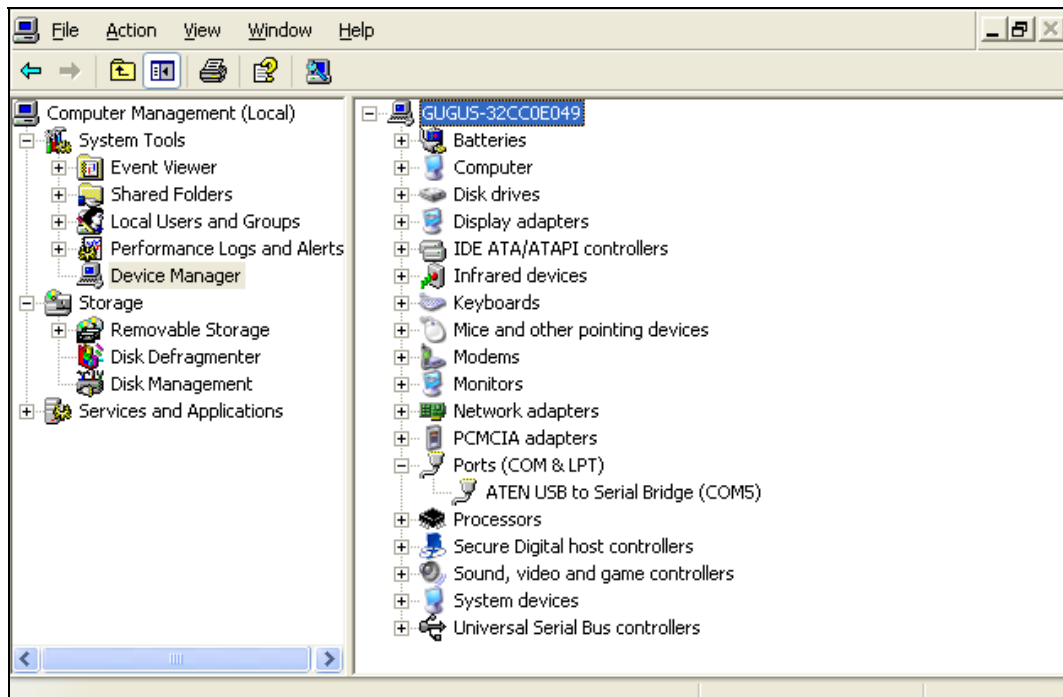

Figure 8: Finding which serial port you are using.
- Check that the name of your station is selected in the station ID box (see figure 8).